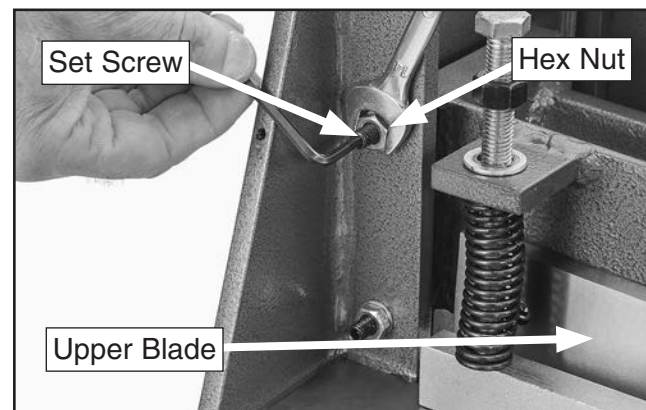

Figure 13. Adjusting set screws to align upper blade with lower blade.
2. Loosen hex nuts on set screws identified for adjustment in **Checking Blade Gap** (see **Figure 13**).